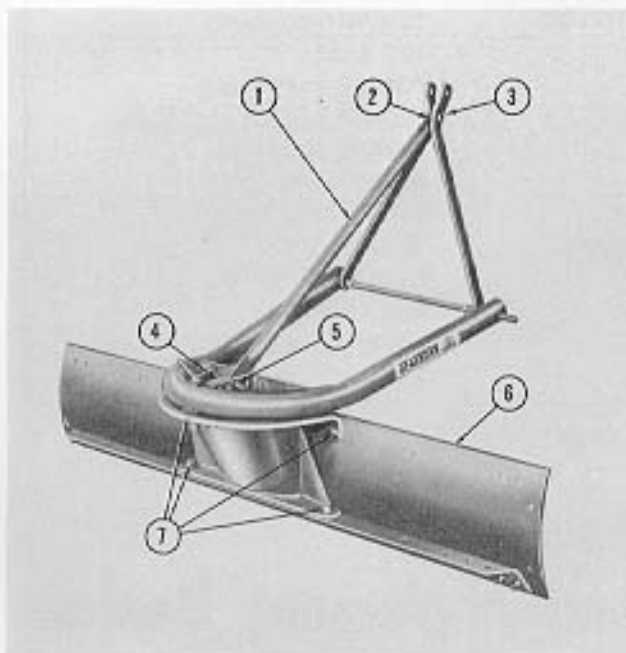

Figure 2
Blade Pitch: The pitch of the moldboard may be changed by moving the adjusting pin (5), Figure 2, to any of the four positions (holes) in the adjustment bracket (4).
2. Position the pitch bar (1), Figure 2 as shown, and secure it to the "A" frame (2) with the $\frac{5}{8}$ " x 2" bolt, nut and lockwasher (3) provided.
3. Connect the lower end of the pitch bar to the adjustment slot (4), Figure 2, and secure the $\frac{5}{8}$ " x $1\frac{3}{4}$ " adjustment pin (5) and cotter pin.
4. Position the moldboard assembly (6), Figure 2, as shown and secure it to the frame assembly with the two $\frac{3}{8}$ " x $1\frac{1}{2}$ " hex head bolts, and the two $1\frac{1}{2}$ " x $1\frac{1}{2}$ " plow bolts, lockwashers and nuts (7) provided.